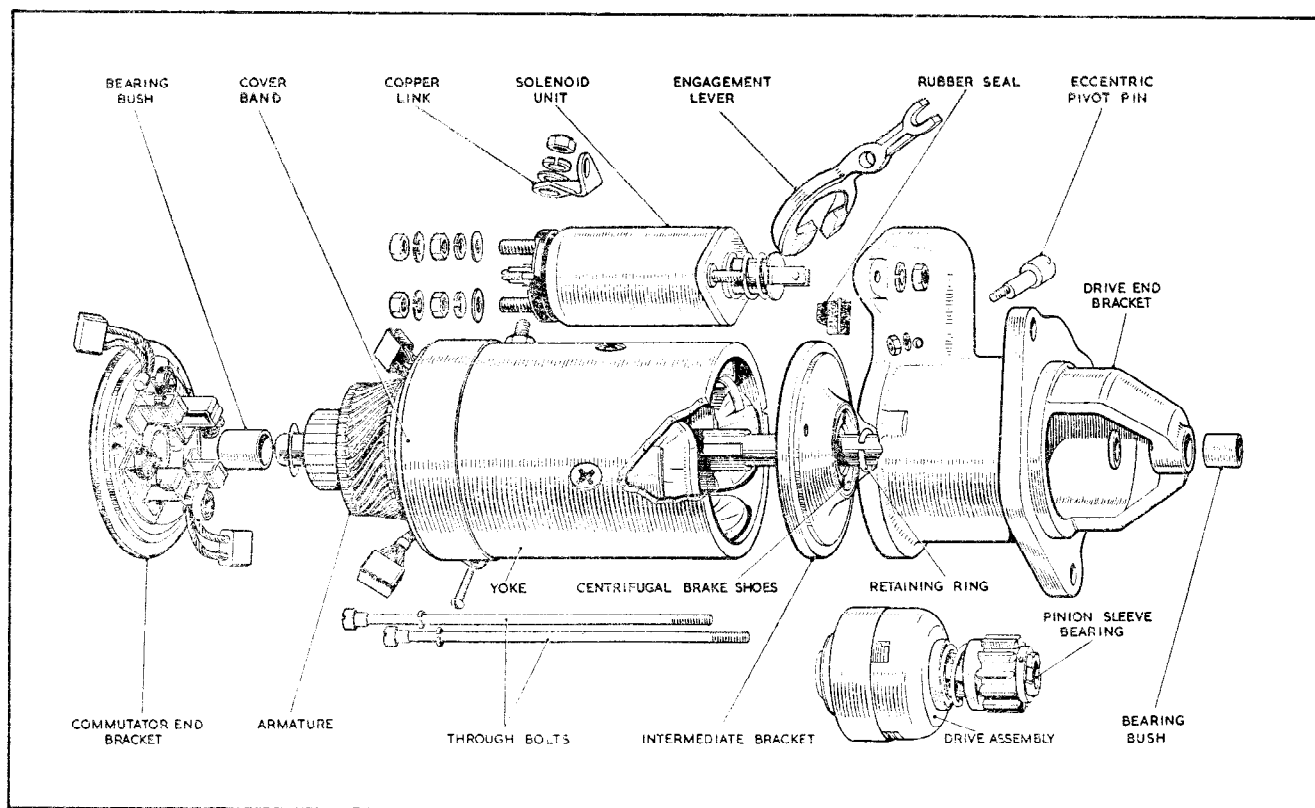

Fig. 4
| 8. Excessive arcing at the commutator. | Defective armature windings, sticking brushes or dirty commutator. | (vi) Remove the nut securing the eccentric pin (see Fig. 4) on which the starter drive engagement lever pivots, and withdraw the pin. |
- (vi) Remove the nut securing the eccentric pin (see Fig. 4) on which the starter drive engagement lever pivots, and withdraw the pin.